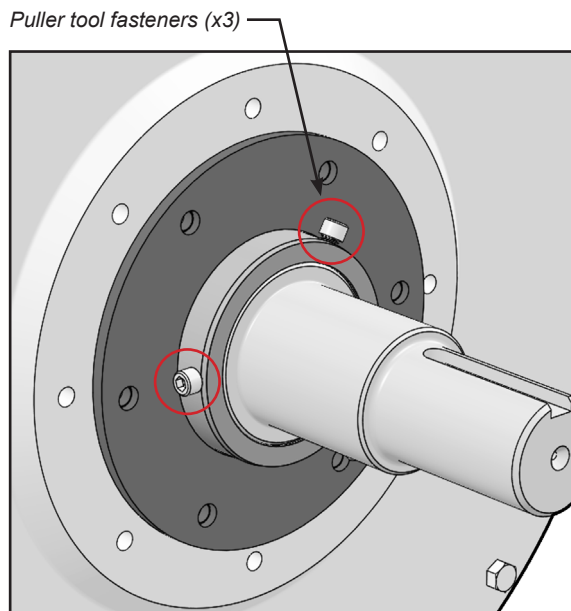

FIGURE 14
15. Install the three supplied puller tool kit fasteners (Kit# 100-123-341 “VJX LARGE SS BSHG REPLT KIT”) as shown (Figure 14). Ensure bolts do not bottom out on rotor shaft.